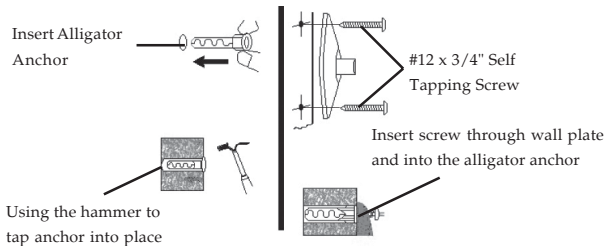

Figure 9
1. Using the wall plate as a template, mark hole positions on the mounting surface. For in-wall applications, position the mounting holes in a vertical pattern, see **Figure 9** on the next page.
2. Drill holes in the solid concrete or hollow block using a 5/16" masonry bit. Once the holes are drilled, insert the # 12-14 alligator anchors into the holes and make sure the anchor is flush with the surface of the wall, see **Figure 9** on the next page.
3. With the wall anchor in place, mount the wall plate using the #12 x 3/4" self tapping screws, see **Figure 9** above.